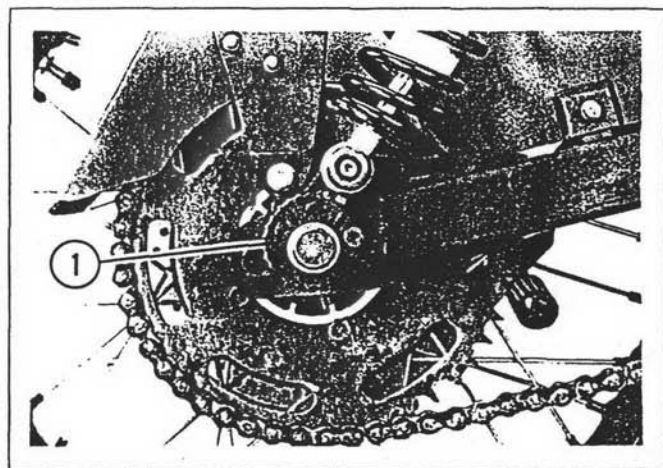

Figure 5-28. Right Chain Adjustment Cam
5. Rotate left adjustment cam (2) to tighten chain to ~~40~~ AMD-2 ~~50 mm (1.6 - 2.0 in.) free play.~~ 2311198 2rc8yle ~~55-65 mm (2.2 - 2.6 in.) free play.~~ 10-15 mm (0.4 - 0.6 in.) free play must be evident when the weight of the machine is on the wheels
6. See Figure 5-28. Rotate right adjustment cam (1) so that same detent is aligned with stop screw as on left cam.